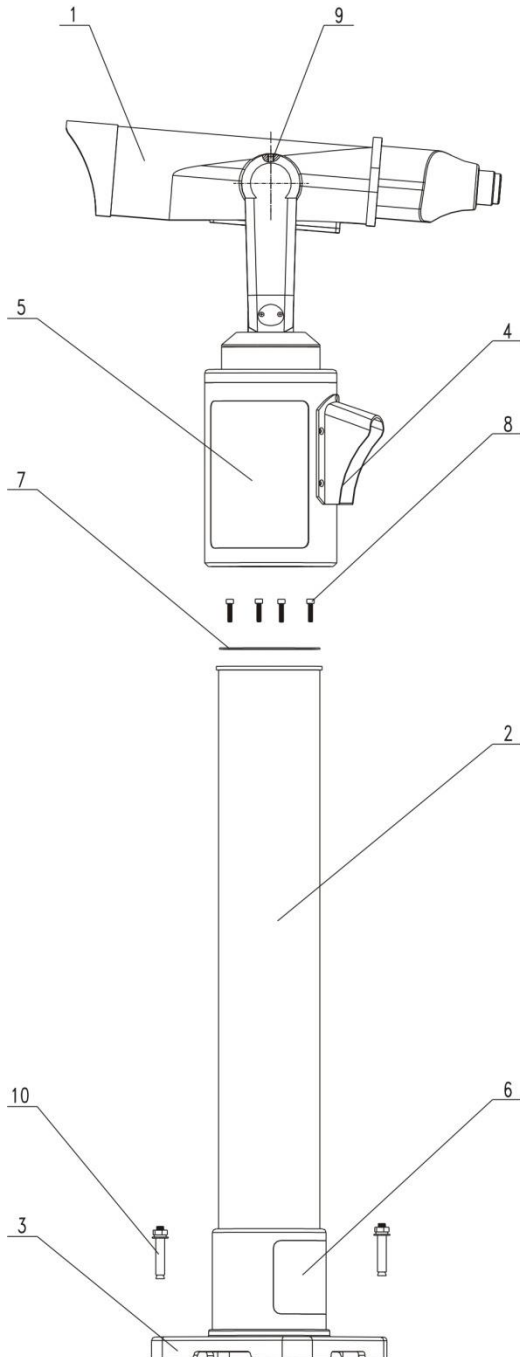

Figure 1
1. The configuration of the Omegon® Coin operated telescope Bonview 20x100 Series Telescopes are shown in Figure 1.